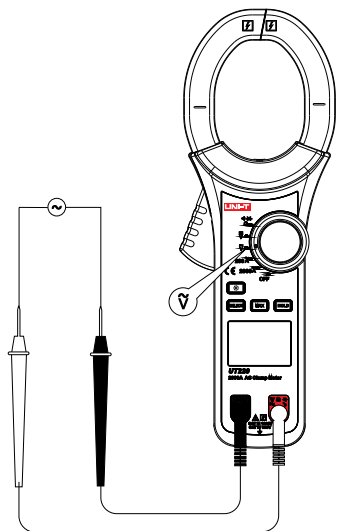

Figure 4
2. AC voltage measurement $\tilde{V}$ (See Figure 4)